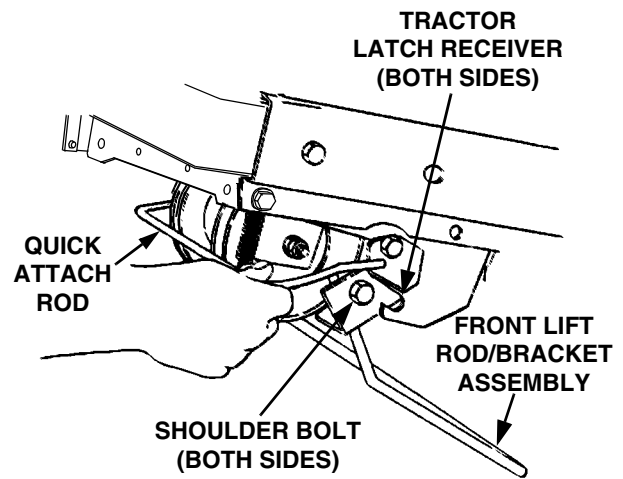

Figure 6-17
10. From the front of the tractor, push downward and hold the tractor quick-attach rod. Pull the front lift rod/bracket assembly forward to release the shoulder bolts on each side of the bracket from the left and right tractor latch receivers. Release the tractor quick-attach rod (Refer to Figure 6-17).